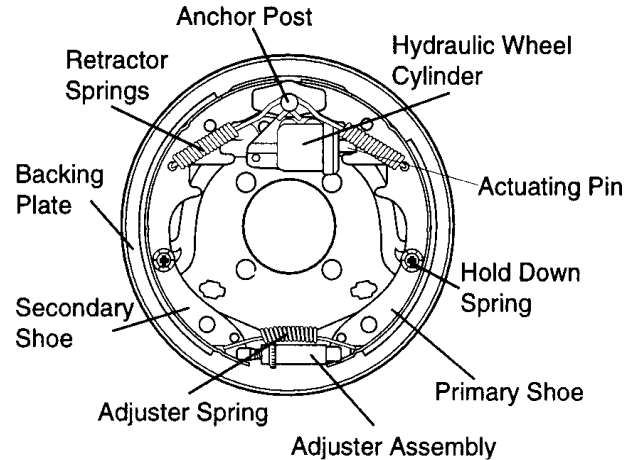

Figure 59. Hydraulic Brake Components
12. **Lug Nuts** - Used to secure the wheel to the wheel hub. Always use a torque wrench to tighten down the lug nuts. See Table 16 and Figure 59 for lug nut tightening and sequence.
Figure 59 displays the major hydraulic surge brake components that will require inspection and maintenance. Please inspect these components as required using steps 1 through 8 and Table 14 as listed below:
Hydraulic surge brakes (Figure 59) should not require any special attention with the exception of routine maintenance such as shoe and lining replacement. Brake lines should be periodically checked for cracks, kinks, or blockage.